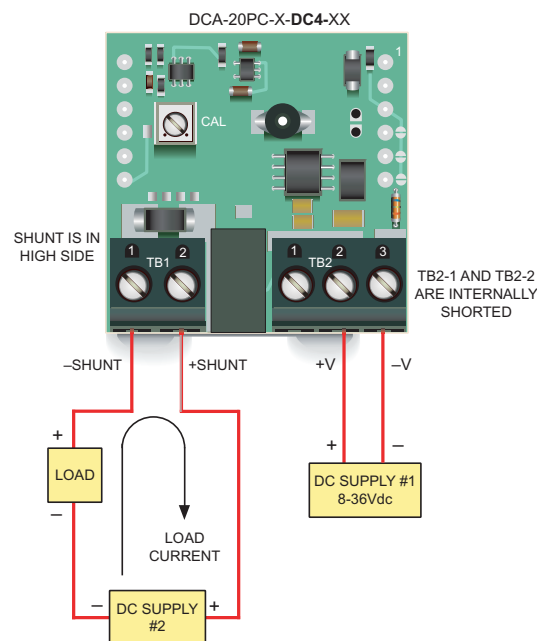
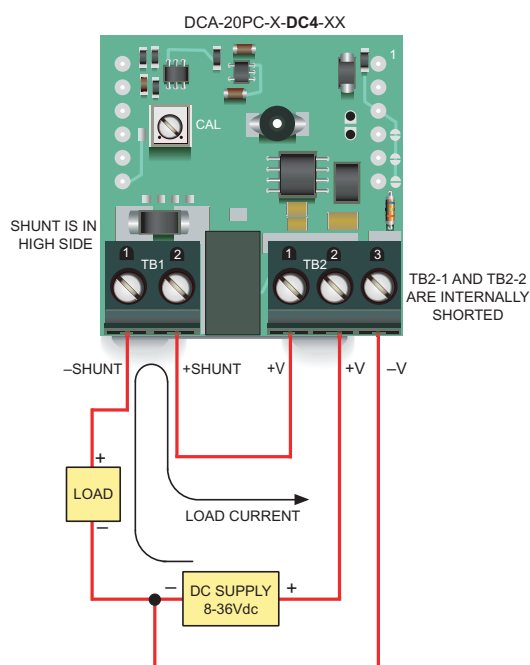

Figure 5. Using "-DC4" Isolated-Power Models to Maintain Isolation Between Two Power Supplies
Figure 4. High-Side Shunt Connections for "-DC4" 8-36Vdc Isolated-Power Models
**High-side shunts:** '-DC4' 8-36Vdc isolated-power models must be used in all applications that employ a single power supply to power both the load and the ammeter and the shunt is located in the high side (positive terminal) of the power supply. Figures 4 and 5 depict typical high-side shunt connections. As shown in Figure 5, '-DC4' isolated-power models can also be used in applications where one supply powers the ammeter and a second supply powers the load, but the two supply-grounds cannot be tied together. '-DC4' models include a built-in dc/dc converter to provide a minimum 500Vdc isolation between the shunt (TB1) and power supply (TB2) inputs.